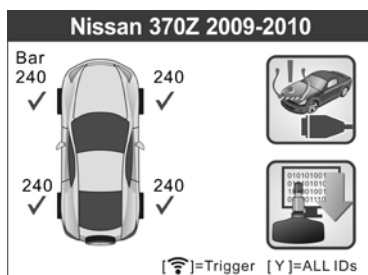

Figure 4.20
- 4) Follow the same process in **4.1 TPMS Sensor Check** to enter the activation screen. Use the **UP/DOWN** scroll button or **LEFT/RIGHT** scroll button to select the **TPMS Relearn** function on the upper right corner of the screen. (Figure 4.20)